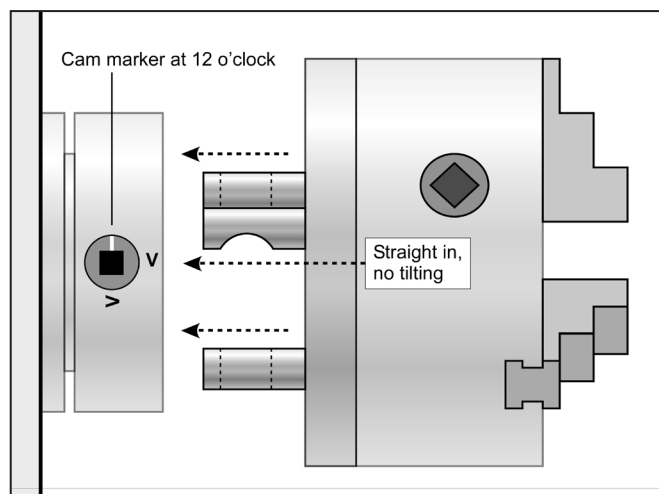

Figure 3-8 Installing a Camlock chuck
3. While **supporting its full weight**, install the chuck without tilting, see Figure 3-8, then gently turn each of the cams **clockwise** — snug, firm, but not locked in this first pass.
Protect the lathe bed, as Figure 3-7. While supporting its weight, turn each of the cams to 12 o'clock, Figure 3-8, then remove the chuck. If the chuck does not come free, try tapping the backplate gently with a soft (dead blow) mallet.